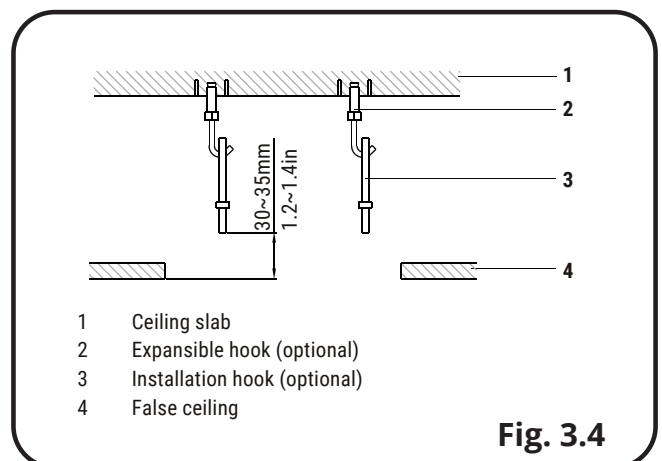

Fig. 3.4
Use installation hooks for installation. Check whether the ceiling is strong enough to support the weight of the indoor unit. If there is a risk, reinforce the ceiling before installing the unit. Space required for installation. See **Fig. 3.4** on the next page for details.
- Adjust clearance from the ceiling before proceeding further. See **Fig. 3.4** for Installation example.